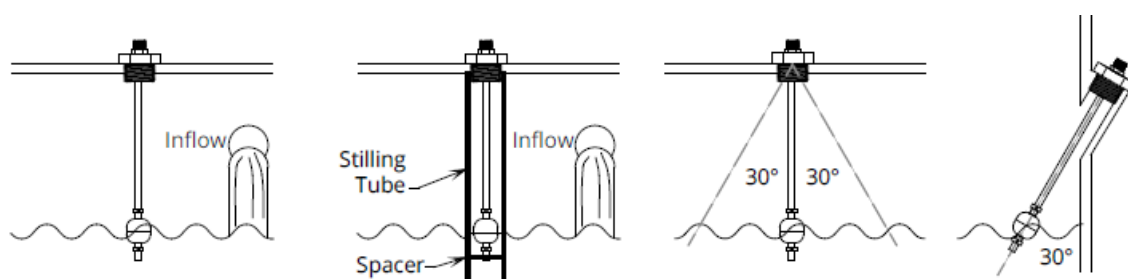

Figure 2.1
- If there is surface wave action, then use a time-delay relay or stilling tube. If a stilling tube is used, drill vent holes in the tube and use a spacer to ensure the float has free travel inside the tube (See Figure 2.1).